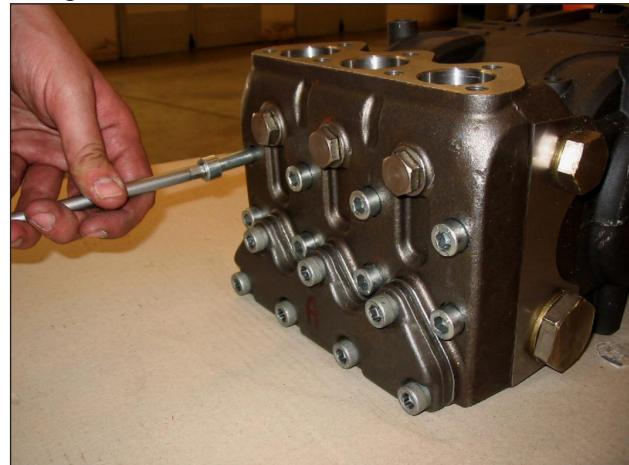

Fig. 20
- Unscrew the M10x110 head fixing screws as indicated in Fig. 20.